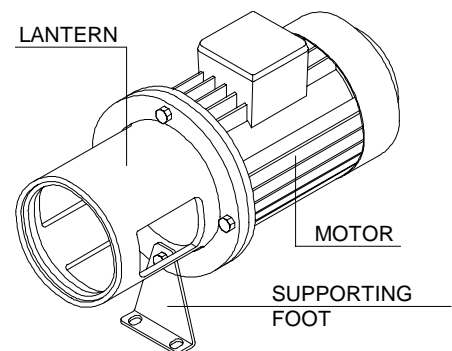
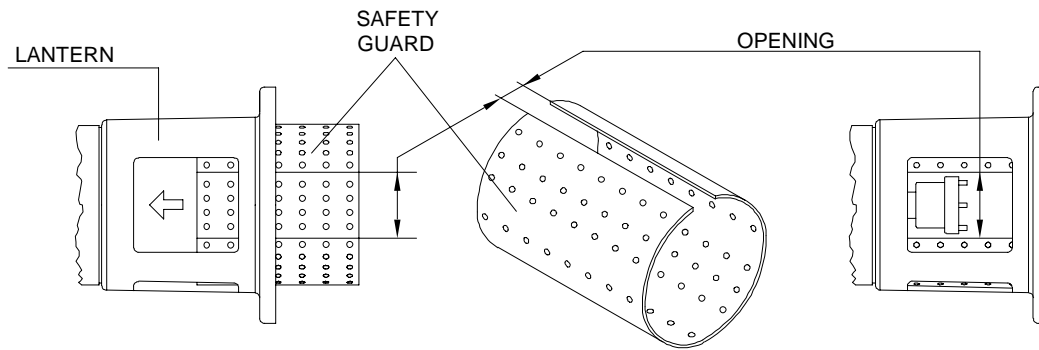

Fig. 5
Fig. 6 - PREPARATION TO ASSEMBLY ON MONOBLOCK DESIGN
- 2 - Insert the perforated metal sheet coupling guard inside the lantern so that the coupling is accessible from one of the lateral openings. Couple the electric motor to the pump lantern engaging the two coupling halves, hands may reach the coupling halves through the lateral opening (see fig. 6) tighten the assembly with bolts supplied with the unit and install the supporting foot, when applicable (see fig. 5).